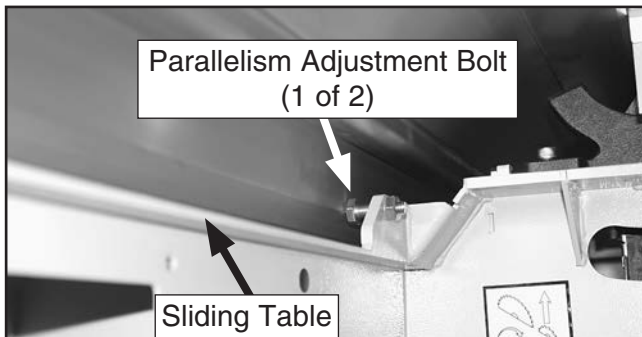

Figure 20. Sliding table parallelism adjustment bolt (1 of 2).
- Position sliding table against parallelism adjustment bolts at each end (see **Figure 20**).